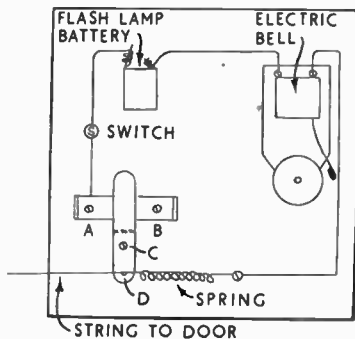

Fig. 3
Drill holes at (A), (B) and (C). Screw the bracket in one corner of a baseboard 8 ins. by 6 ins. (see Fig. 3), taking care to countersink the screws  $\frac{1}{2}$  in. below the centre of this bracket. Screw the stepped bar so that it projects beyond the bracket but, because of the step,